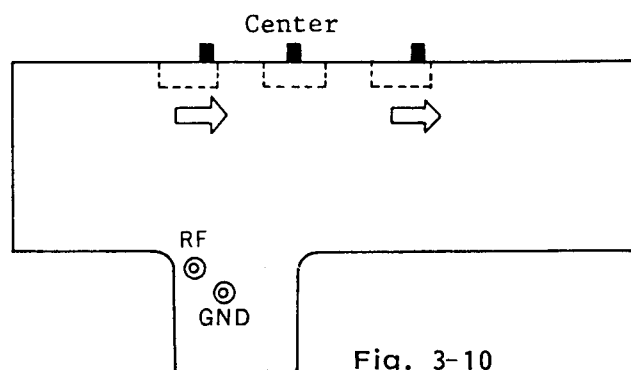

Fig. 3-10
- ① Position the switches of the PCB connection cord as shown in Fig.3-10.